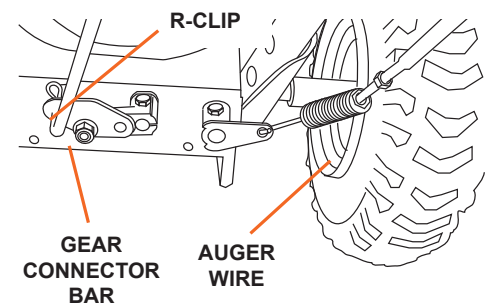

Figure 3
3. Attach the auger wire on the right side of the snow blower (see Figure 3). Remove the R-clip that connects the auger wire to the control lever on the handlebars, then slip the wire off. Attach the other end of the auger wire with the spring mechanism to the connection and reattach the auger wire to the control lever reinserting the R-clip. After connecting the wire adjust the tension. The wire should be taught when connected. (See Control Wire Adjustment, page 23 in the Operation Manual).